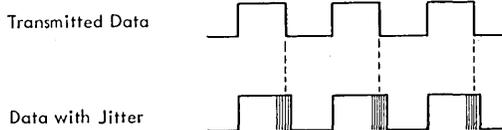

FIGURE 1-28. JITTER
2. **End Distortion** - In Start-Stop telegraphic signals, the shifting of the end of all marking pulses from their proper positions in relation to the beginning of the start pulse is called **"end distortion."** Marking end distortion denotes a lengthening of the marking bit. Spacing end distortion denotes a lengthening of the spacing bit (Mark bit is shortened). See Figure 1-28.
that fortuitous distortion means random disturbances. Another example of fortuitous distortion is "jitter". Jitter is the random variation in bit length due to noise or modulation process. Jitter cannot, for the most part, be adjusted. Oscilloscope observation of a specific character being received continuously will reveal jitter. Measurement of the maximum variation will reveal peak jitter in percent. Jitter will be covered further in the telegraphic diagnostic session. Figure 1-28 depicts jitter as it would be observed on an oscilloscope.